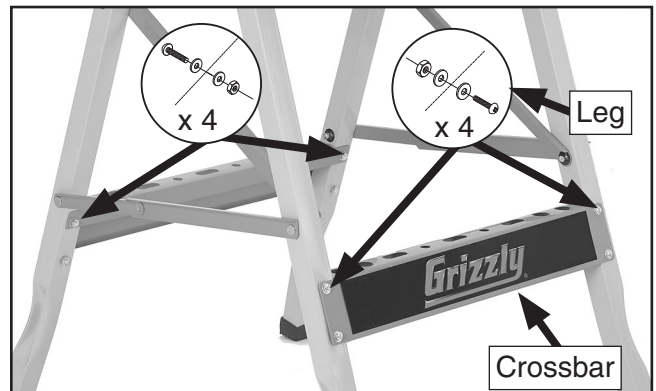

Figure 2. Crossbars and legs assembled.
1. Attach the crossbars to the leg braces with (8) M6-1 x 40 Phillips head screws, hex nuts and (16) 6mm flat washers, as show in **Figure 2**.